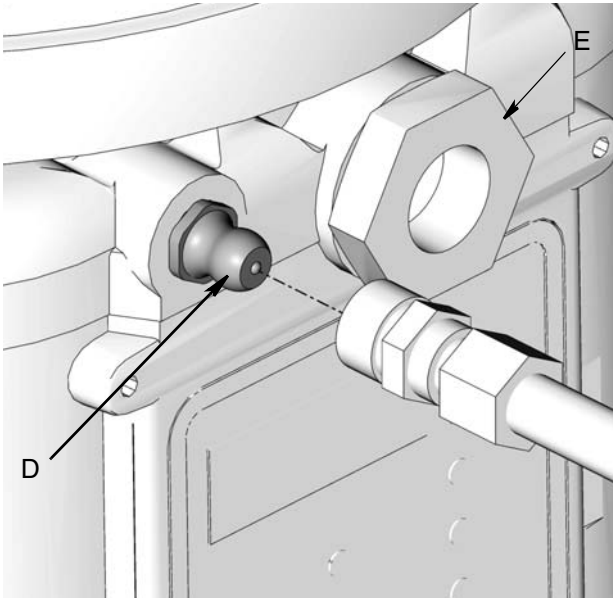

FIG. 5
1. Connect fill hose to inlet fitting (FIG. 5).